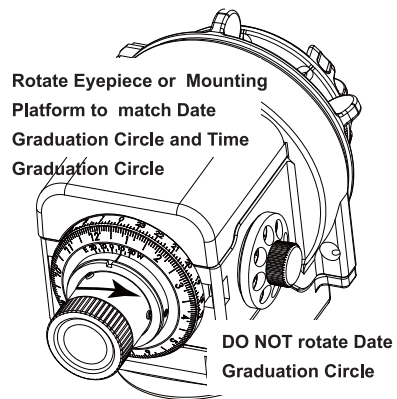

Fig 30
5. Match the **Date Graduation Circle** with your observing time by turning the eyepiece/ Mounting Platform. Please **DO NOT** rotate **Date Graduation Circle** directly at this step. For example, if your observing date is March 4 and observing time is 8:00PM. (Standard Time, that is Daylight Time -1 if applied.)(Fig 30)